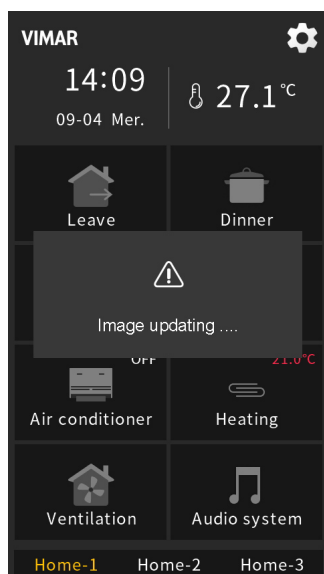
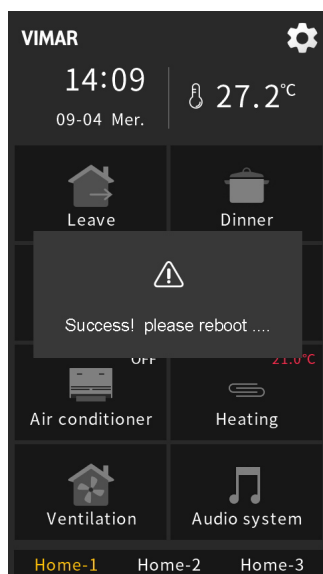
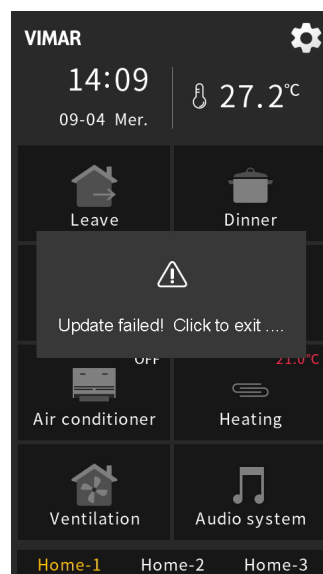
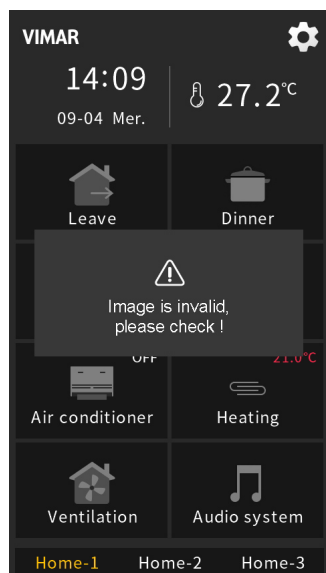

Fig. 5.2
Fig. 5.3
Fig. 5.4
Fig. 5.5
3. Click "Confirm" to update picture; after upgrade, there will pop up a window of the result, if upgrade is successful, reboot the device manually to apply the new page icons to the system; if upgrade is failed, click any area outside the window to return to the page, as shown in Fig. 5.2, Fig. 5.3, Fig. 5.4 and Fig. 5.5.
Note: when upgrading, if the single picture is larger than the remaining storage space of the device (the total size of the device picture storage disc is about 15 MB), the remaining valid pictures shall be stopped updating, upgrade is failed as shown as Fig. 5.4.